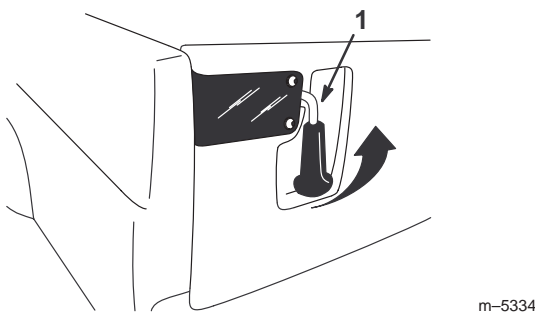

Figure 11
1. To open the tailgate latches, lift the latch handles up (Fig. 11). The latches will spring out toward the center of the tailgate. Slowly lower the tailgate.